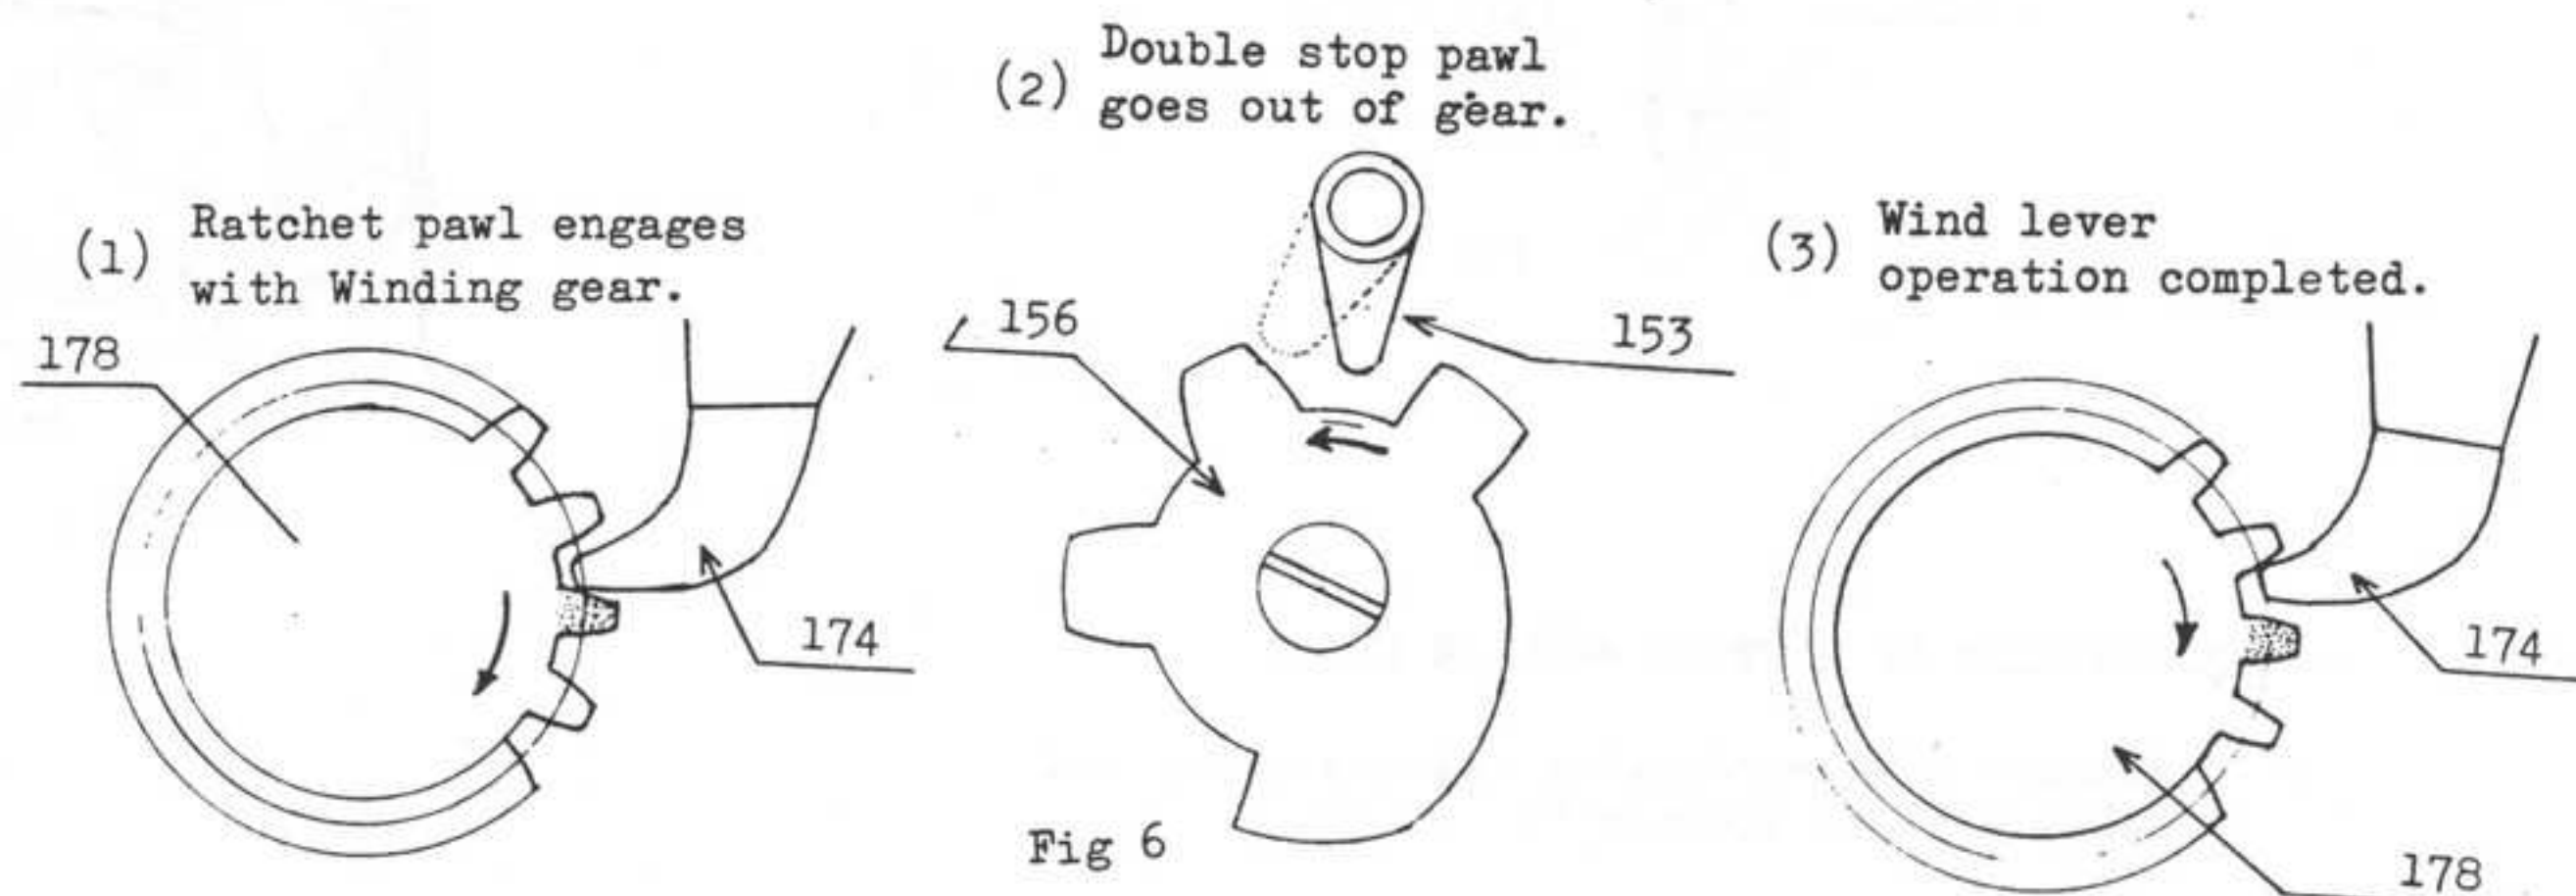

Fig 6
After making the above adjustment swing Wind lever (157) slowly, and make sure that Ratchet pawl (174) and Double stop pawl (153) operate in order 1 - 2 - 3 in Fig. 6. When doing this trial operation, Take-up spool (194) must be depressed on with your finger, taking the film tension into consideration.